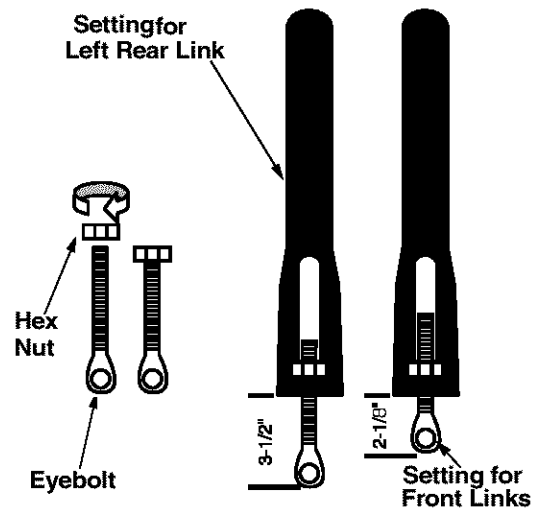

Figure 7
- Start 1/2" hex nuts on eyebolts until nuts are flushed with ends of eyebolts. See Figure 7.
- Insert eyebolts and hex nuts into the adjustable lift links located under the tractor. See Figure 7.
- Thread eyebolts into the lift links and hex nuts. The left rear link should be adjusted so the eyebolt hangs about 3-1/2 inches below the lift link. The two front links should be adjusted so the eyebolts hang about 2-1/8 inches below the lift links. See Figure 7.